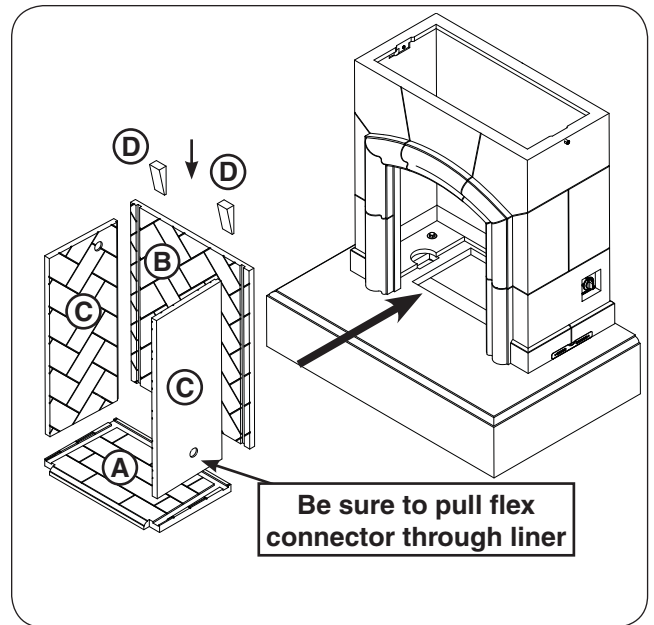

Fig. 15-1 Install firebox liners
1. Install the firebox liners into the interior of the firebox in the order shown in Fig. 15-1.